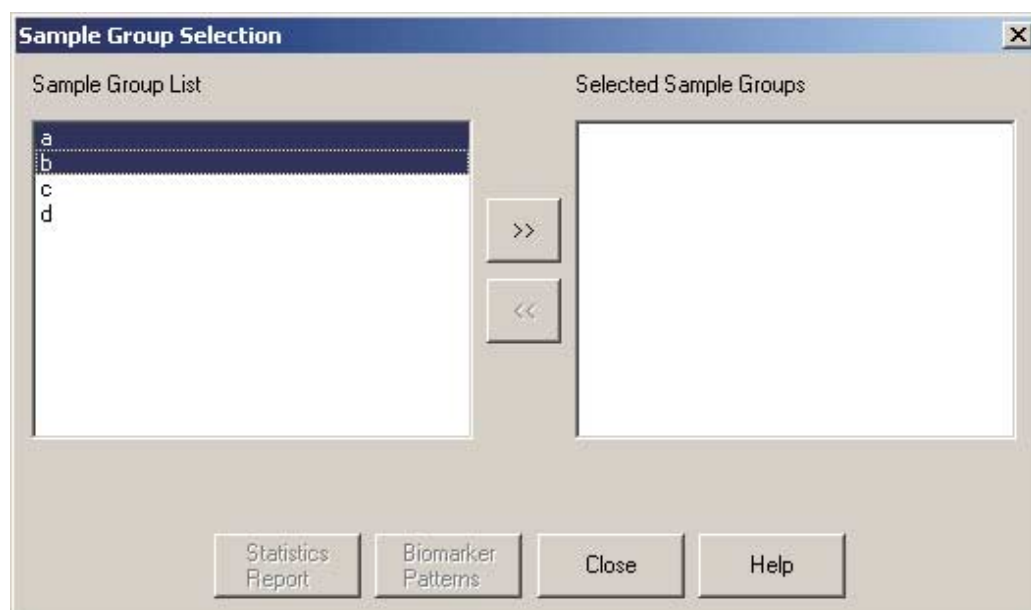

Figure 5-41: The *Sample Group Selection* dialog.
1. Select **Sample Group Selection** from the **Experiment | Biomarker Wizard** menu to open the **Sample Group Selection** dialog (refer to Figure 5-41).